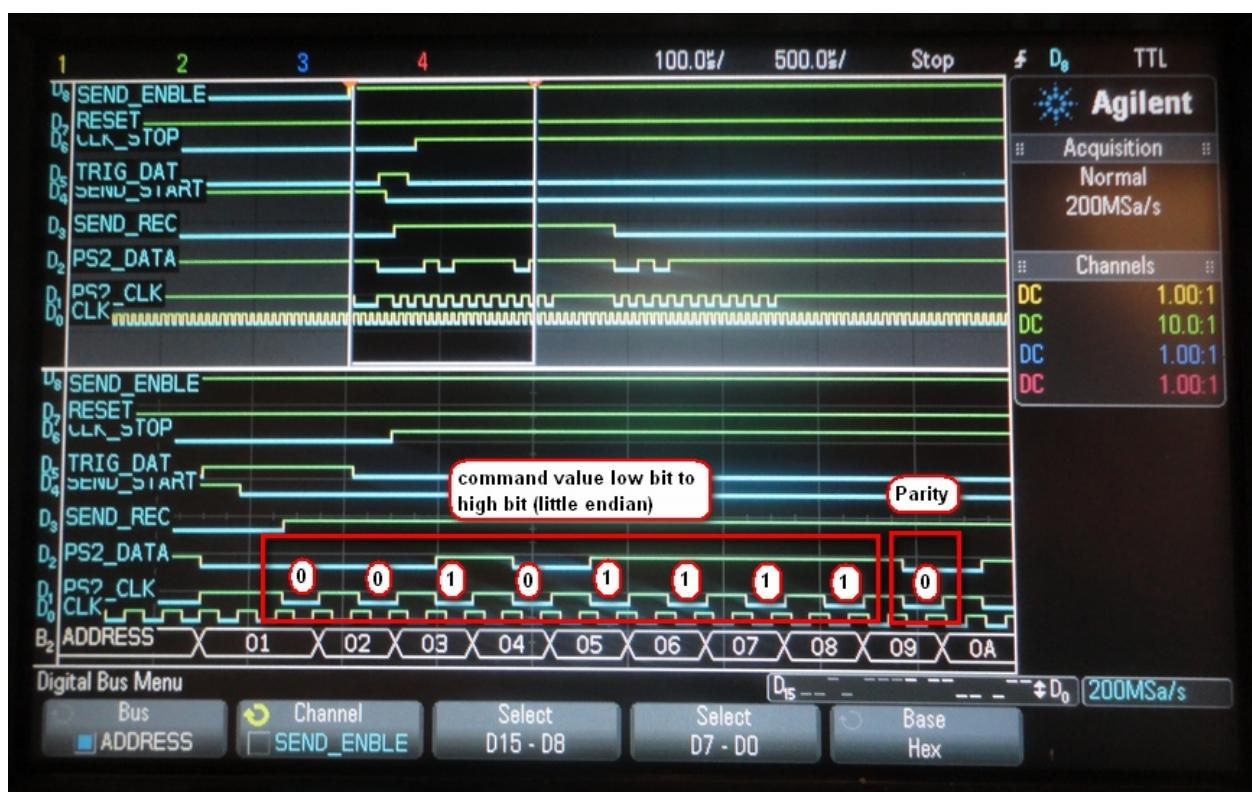

Figure 85 - Zoomed in transfer sequence
- The result should look similar to **Figure 85**.